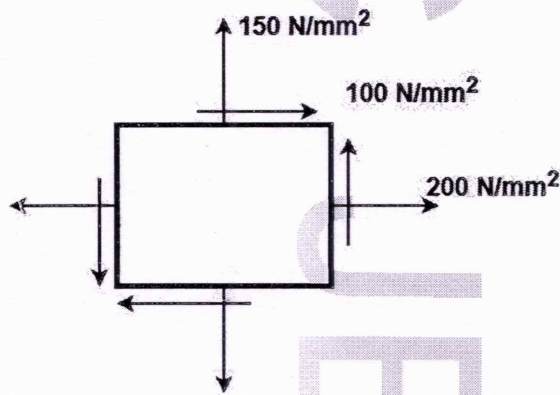

Fig 1
- 15 Find the Euler's crippling load for a hollow cylindrical steel column of 38 mm external diameter and 2.5 mm thick. Take length of the column as 2.3 m and hinged at its both ends. Take $E = 205 \text{ GPa}$. Also determine crippling load by Rankine's formula using constants as 335 MPa and $1/7500$. CO4 (9)
- 16 The state of stress at a point in a strained material is as shown in Fig. 1 CO4 (9)